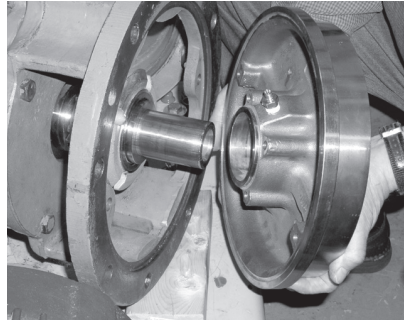

Figure 10
- 2.8 **Install the pump back plate** (seal chamber) and bolt it in place on the bearing frame. See Figure 10.